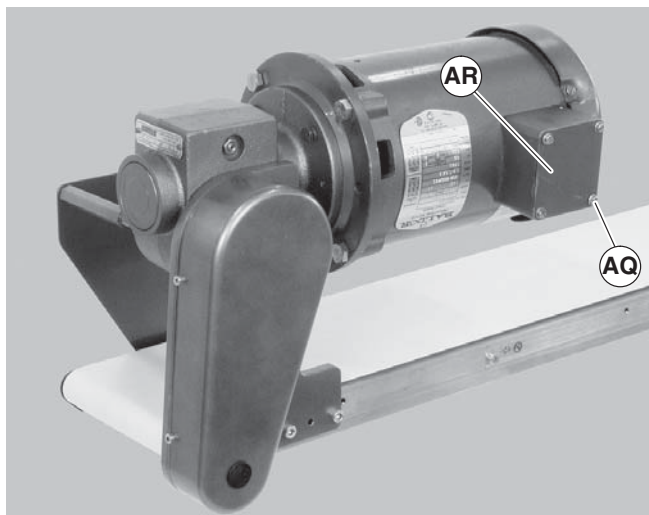

Figure 27
- a. Remove terminal box screws (Figure 27, item AQ) and remove cover (AR).